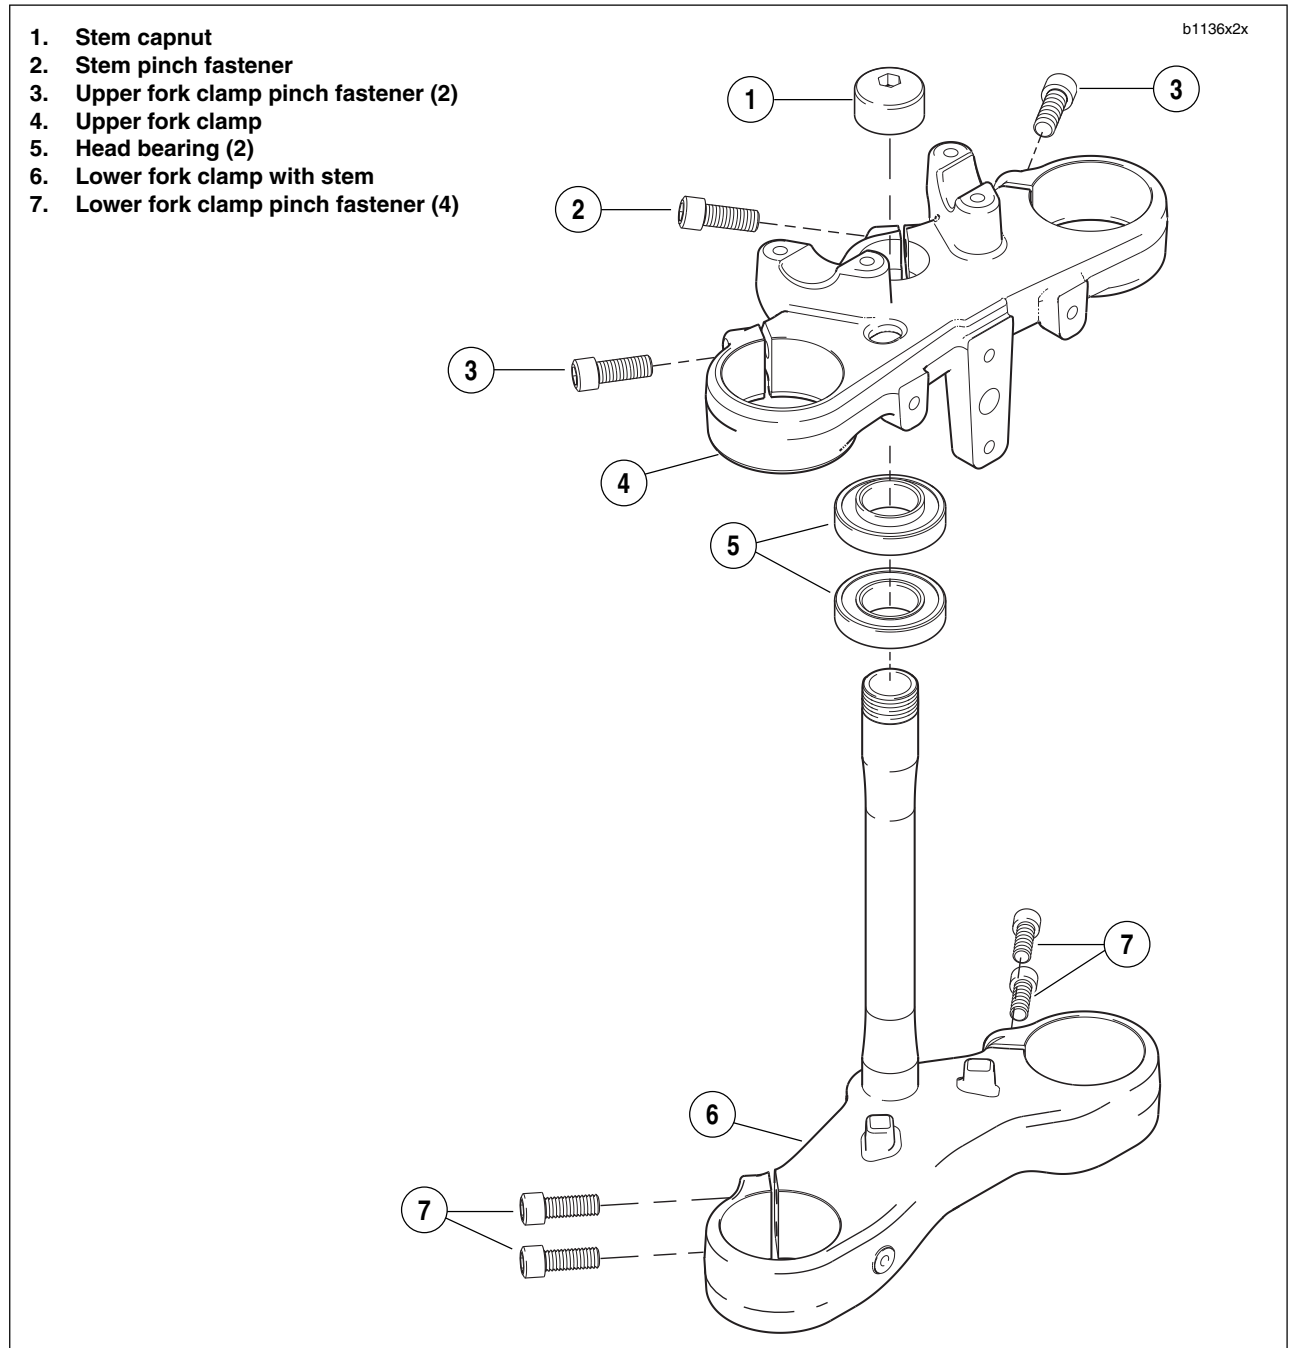
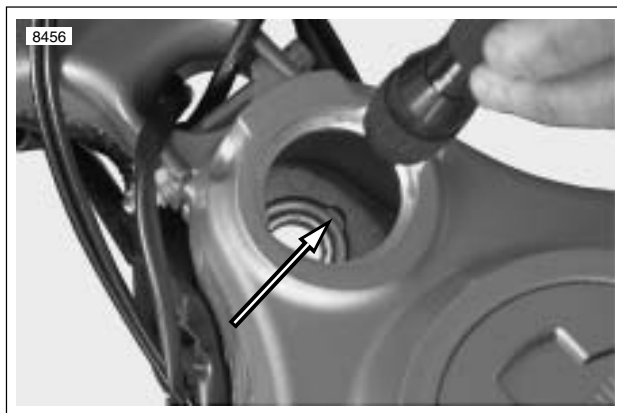

Figure 2-75. Steering Stem Assembly
Figure 2-76. Lower Steering Head Bearing Notches
5. See Figure 2-75. Remove steering stem pinch fastener (2).
6. See Figure 2-75. Hold or brace the lower fork clamp and remove steering stem capnut (1).
7. Remove the upper fork clamp (4).
8. Remove the lower fork clamp (6).
1. See Figure 2-75. Install the lower fork clamp (6) into the steering stem bore and install the upper fork clamp (4).
2. Install steering stem capnut (1). Tighten but do not torque.
- a. See Figure 2-75. Loosen steering stem pinch fastener (2) and upper and lower fork clamp pinch fasteners (3, 7).
- b. Brace wheel while removing steering stem capnut fastener (1).
- c. Remove upper fork clamp (4) and front-end assembly which includes front wheel, steering stem/lower fork clamp.
5. Remove upper and lower steering head bearings (5).
- a. See Figure 2-76. Locate notches inside steering head stem bore (upper bearing removed for clarity).